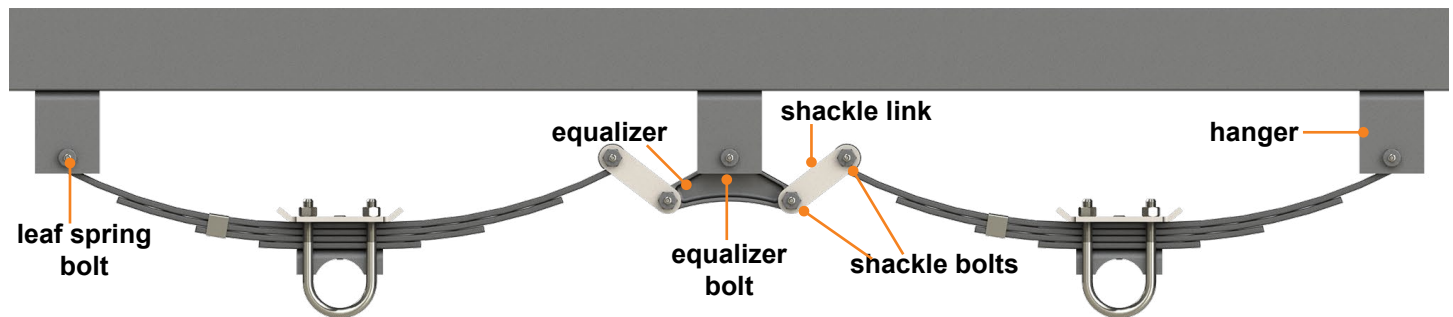

Fig.3
5. With an impact gun or an appropriate wrench, loosen both the nut on the equalizer bolt and the nuts on the shackle bolts (**Fig.3**).
7. The shackle link assembly with the shackle bolts (**Fig.3**) should be removed from the leaf spring eyelets.